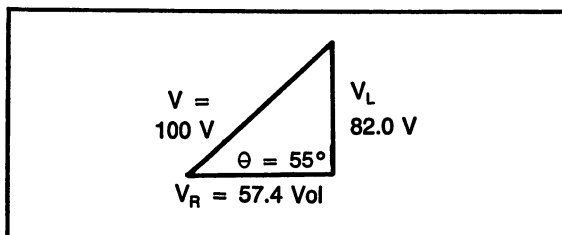

Fig. 14-3. Voltage triangle for sample problem 14-7.
Step 4. Voltage triangle, Fig. 14-3.